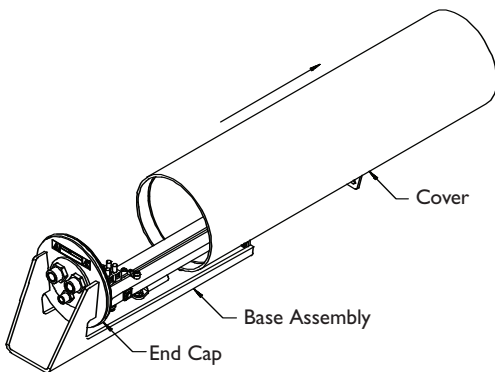

FIGURE 19 Replacing the Cover
2. Replace the cover onto the base assembly by grasping the cover and gently pushing it over the end cap and o-ring. Make sure the o-ring is not pinched. The safety cable can be routed between the cover and the base. See FIGURE 19